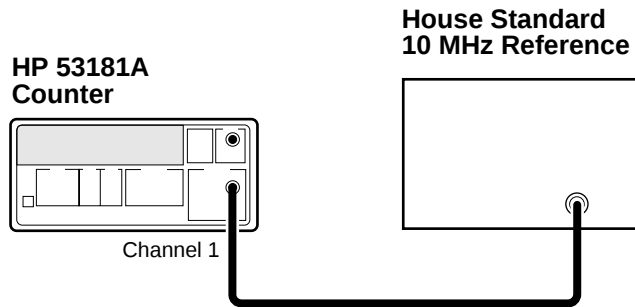

Figure 2-7. Standard Timebase Calibration Setup
- 1 **Connect the output of a 10 MHz house standard to Channel 1 of the Counter as shown in Figure 2-7.**
- 1 Connect the output of a 10 MHz house standard to Channel 1 of the Counter as shown in Figure 2-7.**